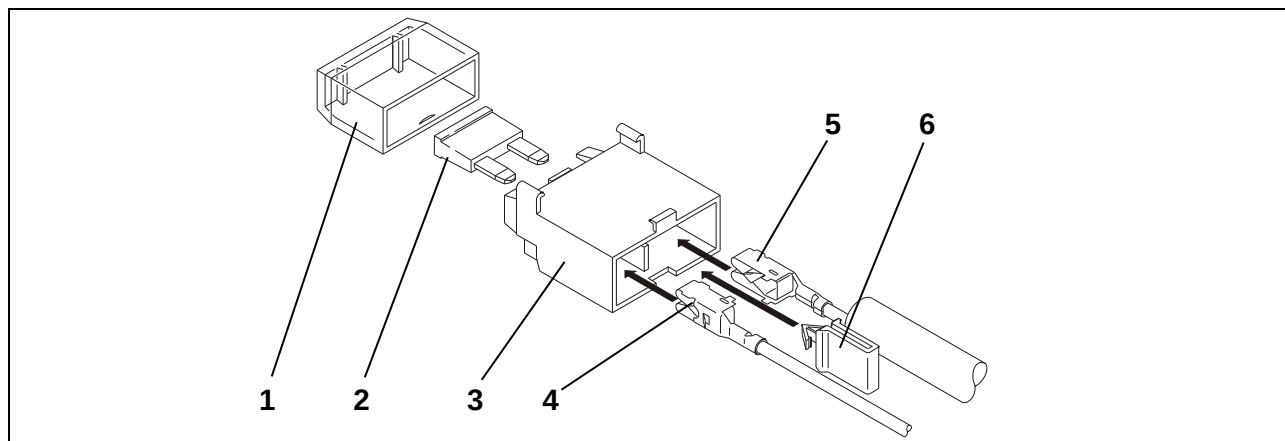

Fig. 2: Fuse holder assembly
18. Let the quick-connect receptacle of the two red cables (Fig. 2/5) and of the red/blue cable (Fig. 2/4) lock into place in the first fuse holder.
19. Let the quick-connect receptacle of the single red cable (Fig. 2/5) and of the red/black cable (Fig. 2/4) lock into place in the second fuse holder.
20. Install the yellow clip (Fig. 2/6) in each fuse holder.
21. Insert the fuse (Fig. 2/2) and fit the cover (Fig. 2/1) to both holders.